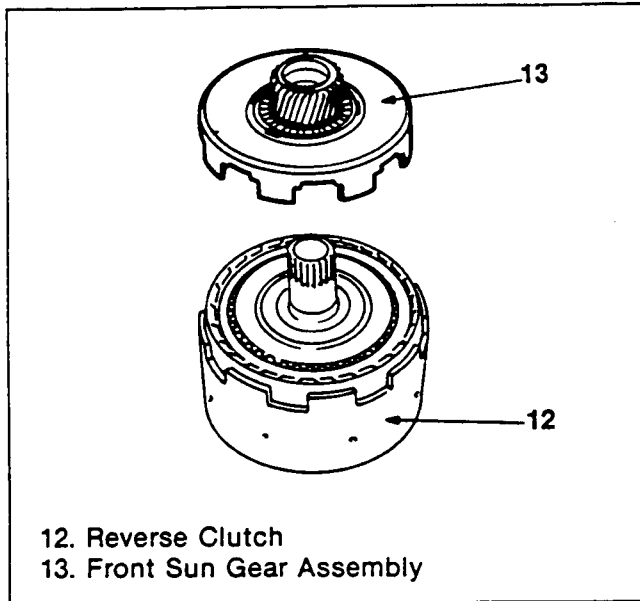

Figure 268. Clutch Pack Reassembly (4)
5. Install the front sun gear to the reverse clutch (figure 268).